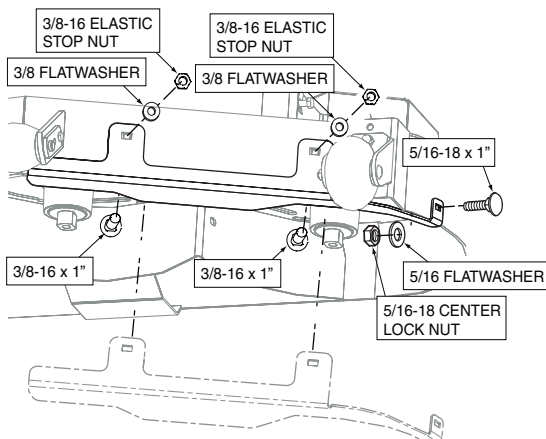

Figure 2-8. Left Side Deck Baffle Installation
1. Install the left side cutter deck baffle supplied in the grass catcher Installation Kit as shown in Figure 2-8. Secure using (2) 3/8-16 x 1" carriage bolts, (2) 3/8" flatwashers, (2) 3/8-16 elastic stop nuts, (1) 5/16-18 x 1" carriage bolt, (1) 5/16" flatwasher and (1) 5/16-18 center lock nut.